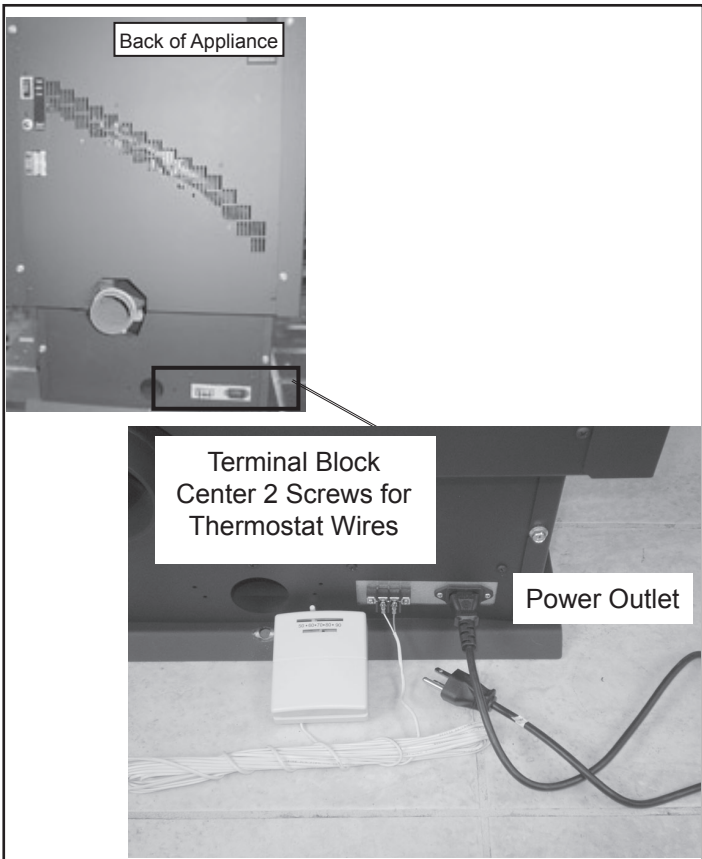

Figure 23.1
3. There is a 4 screw terminal block located on the back lower left corner of the appliance directly above the power cord inlet. The center 2 screws are for the thermostat wires. **Figure 23.1.**